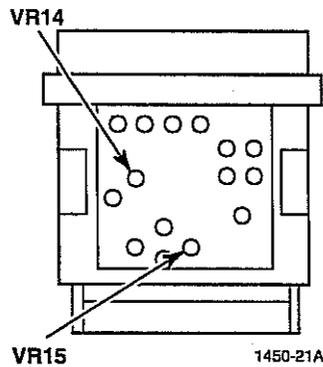

Figure 3-16.
- b. Adjust VR14 (Figure 3-16) for  $1.50 \text{ VDC} \pm 0.05 \text{ VDC}$ .
- b. Adjust VR15 (Figure 3-16) for  $1.50 \text{ VDC} \pm 0.05 \text{ VDC}$ .